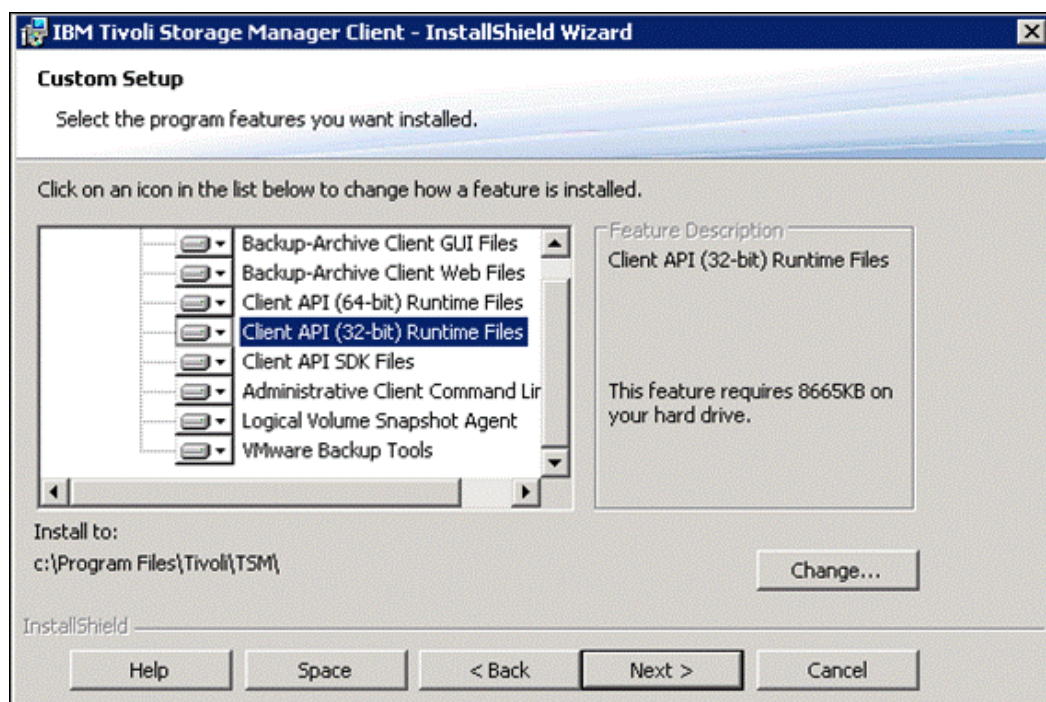

Figure 20-19 Tivoli Storage Manager installation program
1. From the IBM Tivoli Storage Management installation program (Figure 20-19), select all the components to install, and click **Next**.